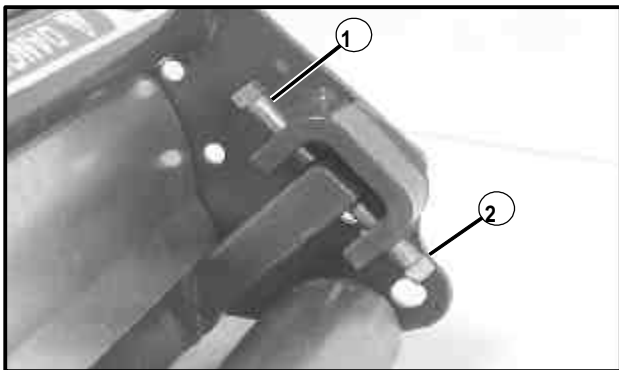

Figure 14
- Loosen the **lower** adjustment screws at each end by turning them approximately 1/4 turn counterclockwise (See Figure 14).